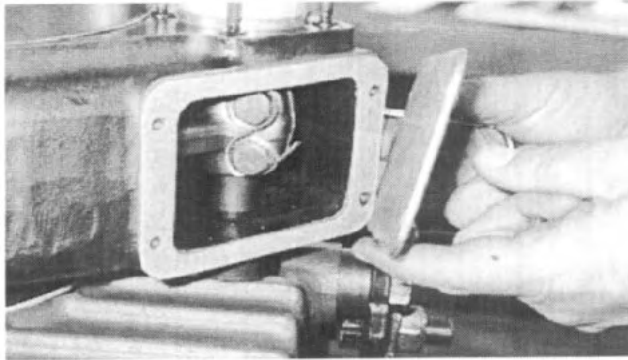

Fig. 11
13. Remove access plate to the front declutch housing shift fork assembly. *See Fig. 11.*